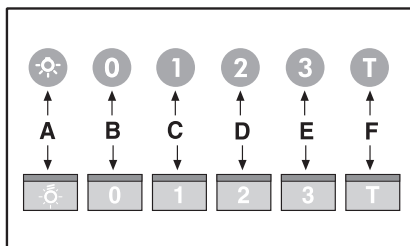

Fig.11
**Commands luminous (Fig.11)** the key symbols are explained below: